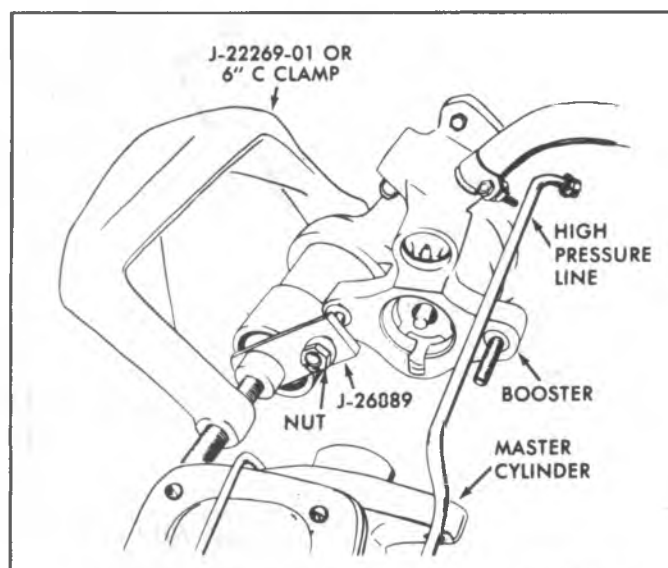

Fig. 5-51--Compressing Accumulator With J-26889
4. Place the accumulator retaining cap Tool J-26889 over the master cylinder stud and install the nut as shown in Figure 5-51.
5. Using Tool J-22269-01 or a large "C" clamp (6" (150 mm) minimum), depress the accumulator. Insert a punch into the hole in the housing and remove retaining ring with a small screwdriver, (fig. 5-51).
2. Using Tool J-22269-01 or a large "C" clamp (6" (150 mm) minimum) depress the accumulator making certain that the accumulator is compressed straight (fig. 5-51).